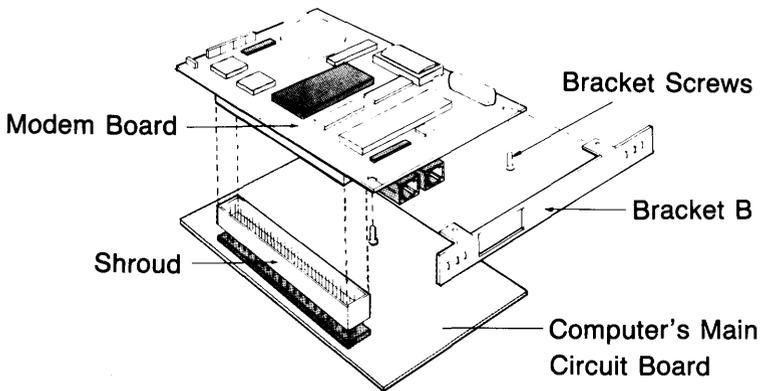

Figure 7. Modem Board (and Bracket B) Installation
4. Attach bracket B to the Modem Board with the phone jacks extending through the cutout. From the bottom of the board, insert and tighten the 2 bracket screws (shorter ones) provided with the Modem Board package. See Figure 7.
5. Attach bracket B to the Modem Board as shown in Figure 7 and carefully align and lower the Modem Board's pin socket onto the shorter of the 2 pin headers on the Memory Board.